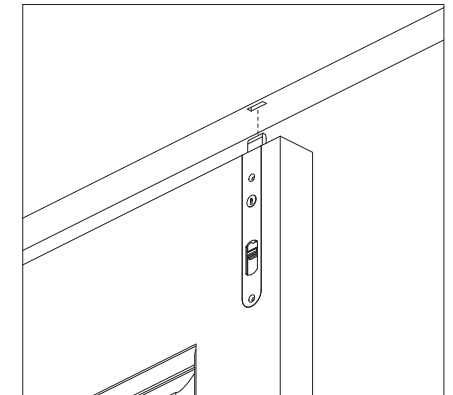

Figure 6.
5.1. Using your preferred method create a L24mm x W6mm x D27mm cavity to accommodate bolt throw. (Figure 6).